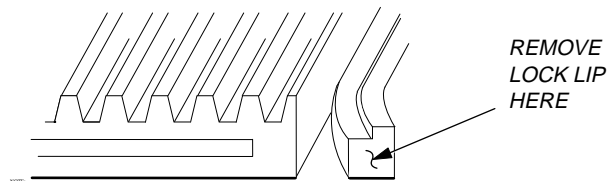

Figure 4-21 Lip Lock Removal
2. Use a sharp utility knife and a straight edge to remove the lock lip from both mats at the point they will join one another. **Only remove the lip from the mat on the side that is joining another mat** (see Figure 4-21).